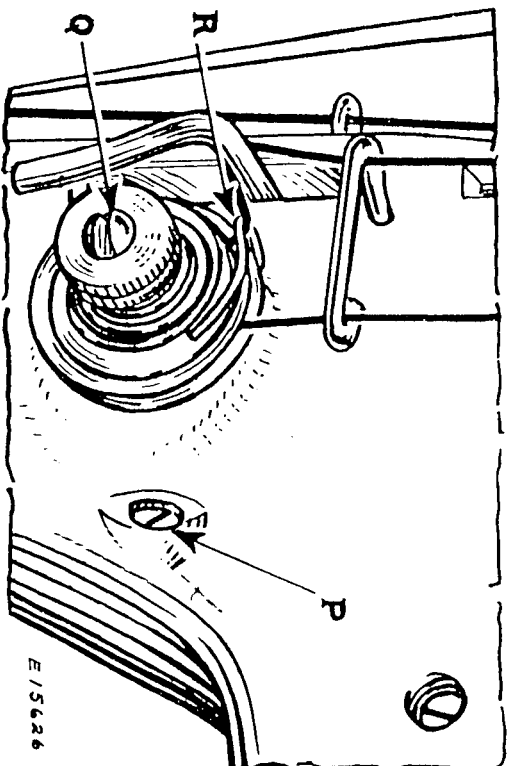

Fig. 22. Adjustment of Thread Take-up Spring
The thread take-up spring (R, Fig. 22) should be set so that when the eye of the needle reaches the goods on the downward stroke of
the needle bar, the spring will be through acting and will rest against the stop on the thread take-up spring regulator. If the thread take-up spring is not correctly set, as instructed above, loosen the set screw (P, Fig. 22) in the arm of the machine, and turn the tension stud (Q, Fig. 22) to the right for more movement of the spring or to the left for less movement. When the spring is correctly set, securely tighten the set screw (P).